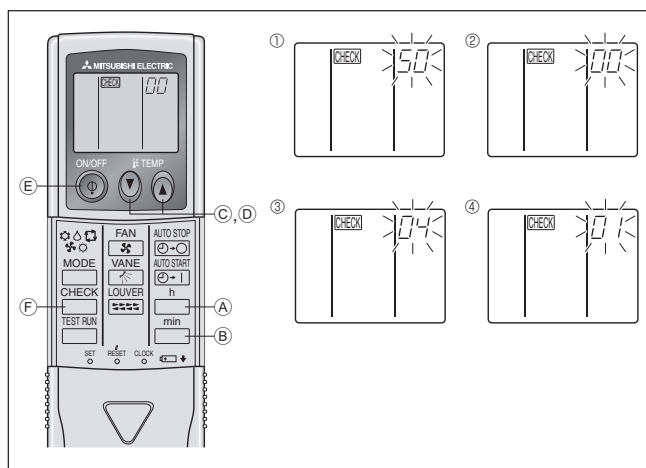

Fig. 6-11
- ⑧ Press the MODE button and mode and the setting number (I) and (II) will change to being on constantly and the contents of the setting can be confirmed.
- ⑨ Press the FILTER and TEST RUN buttons simultaneously for at least two seconds. The function selection screen will disappear momentarily and the air conditioner OFF display will appear.
2) For IR wireless remote controller (Fig. 6-11)